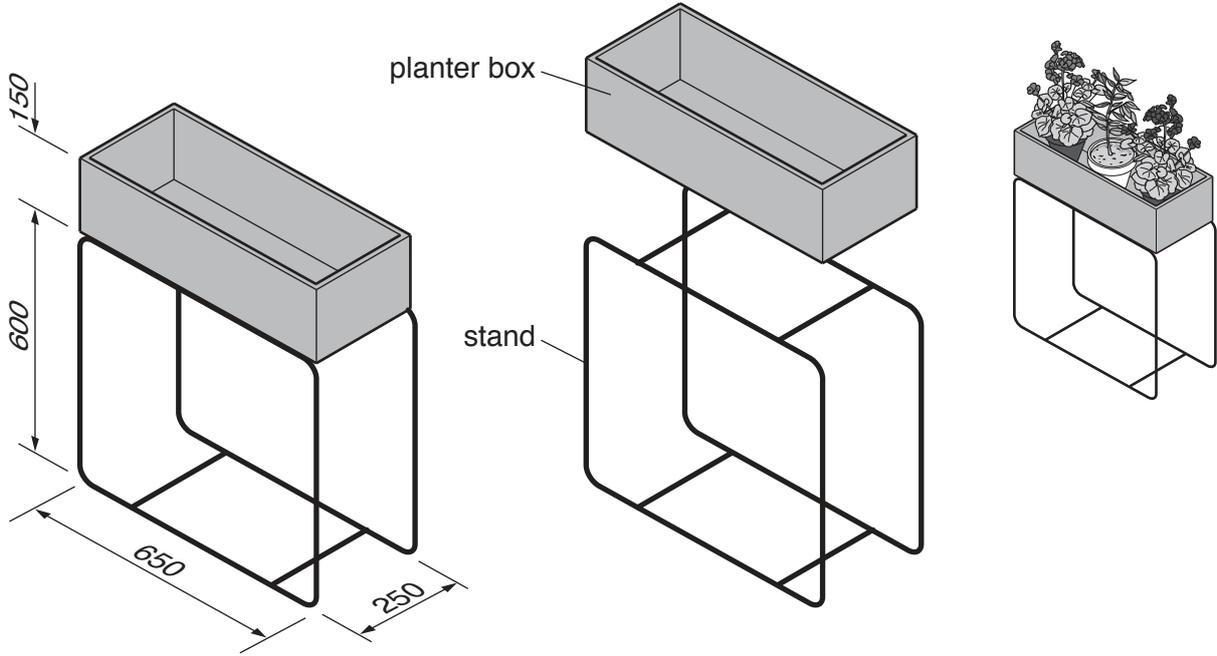

Fig. 8
- 11** Fig. 8 shows views of a planter box and stand.